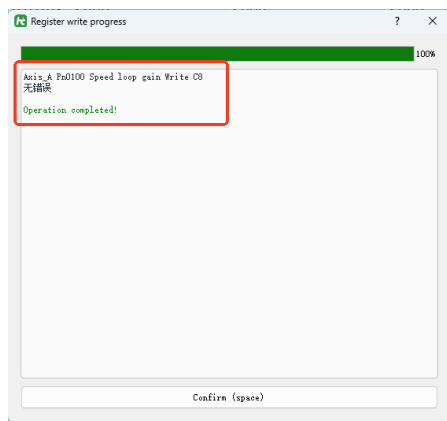

Figure2-9
4) At this point, click the Write Edited Values button in the Quick Access Toolbar. A dialog box as shown in Figure 2-9 will appear, indicating that the modified parameters have been successfully written to the drive. Click OK to close the write progress window.